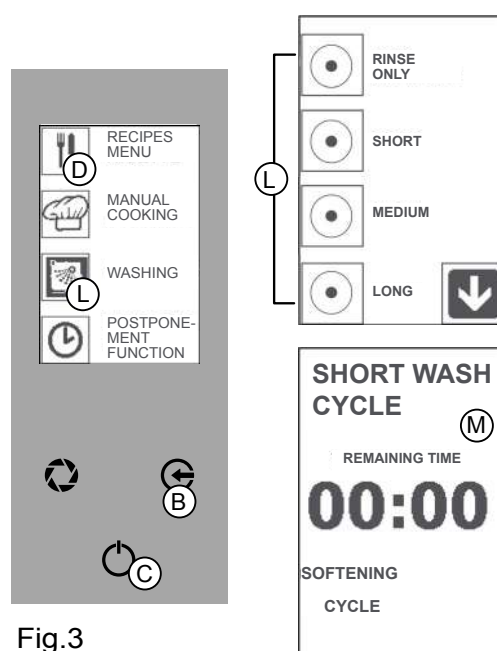

Fig.3
Press the "WASHING" icon (Fig 3/L).
2. Press the corresponding icon to select the desired washing cycle (Fig 3/L).
Press the "ENTER" key (Fig 3/C) to start washing.
The features of the selected washing cycle with the countdown appear on the display (Fig 3/M).
Press the "ENTER" key (Fig 3/C).
Before adding the DETERGENT (Fig 3/M - SOFTENING)
Press the "ENTER" key (Fig 3/C) to resume washing (Fig 3/C).
Press the "ESC" key (Fig 3/B) several times to return to the Home Page.